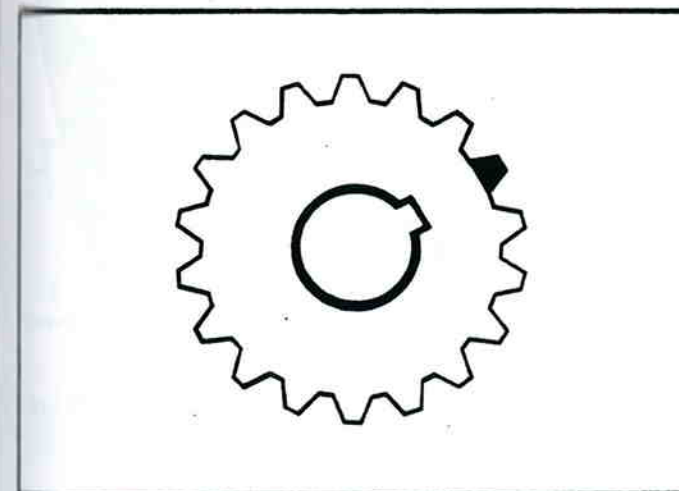

Figure 13-81. Tooth On Countershaft Drive Gear Directly Over Keyway Marked For Timing.
1. Prior to placing each countershaft assembly into case, clearly mark on each drive gear the gear tooth which is directly over the keyway in gear (see figure 13-81). This tooth is stamped with an "O" to aid identification.